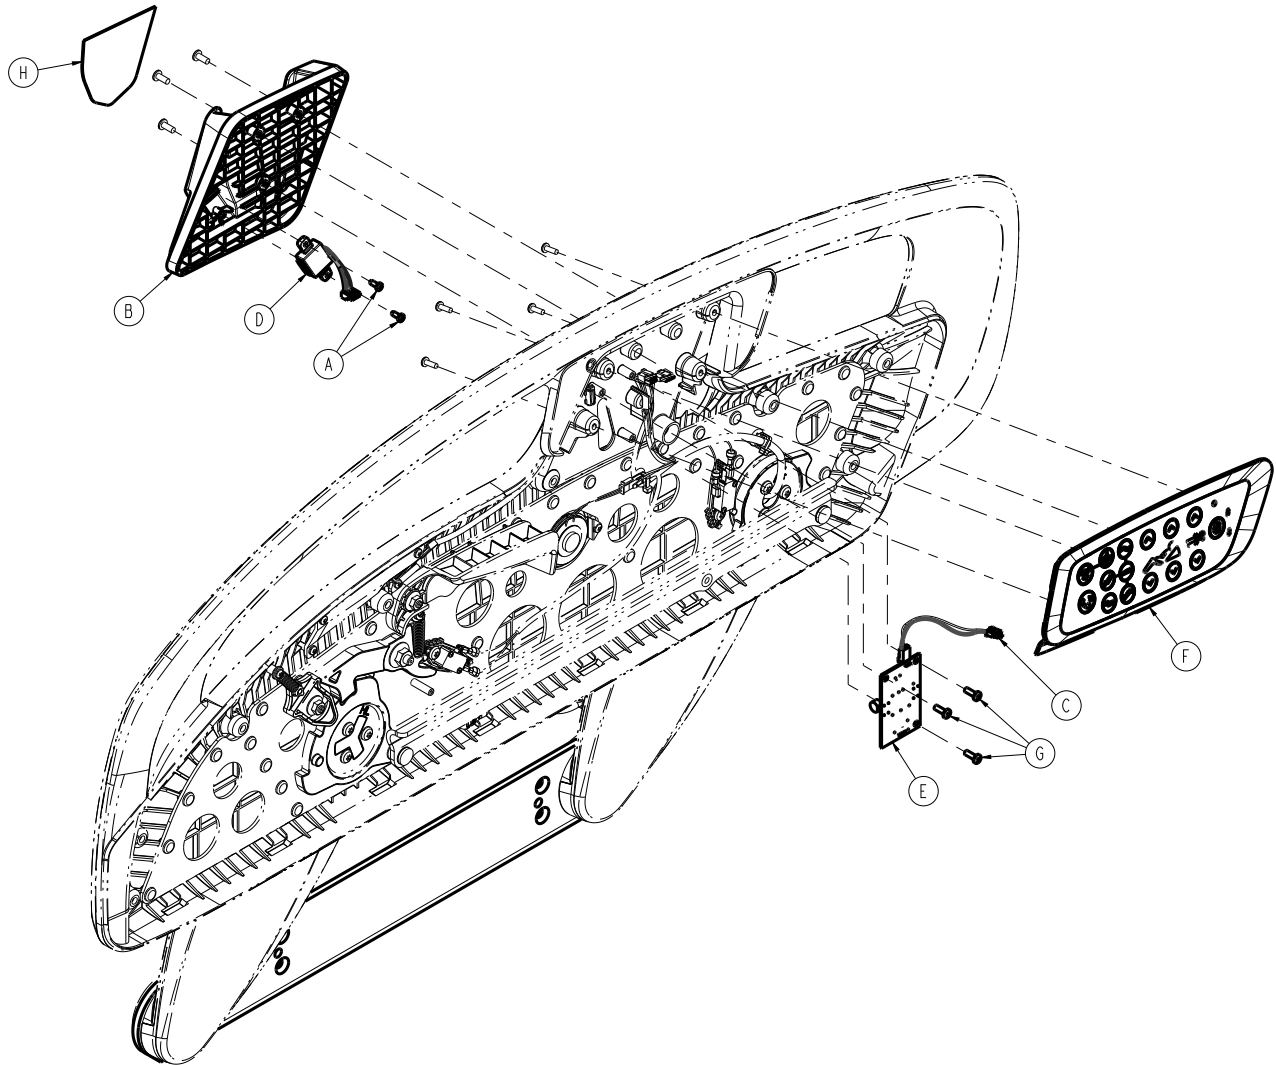

Figure 53 – Replacing the USB port option
9. Unplug the USB cable (D) from the USB charging board (E) to remove the patient belonging bracket with USB (B) (Figure 53).
11. If the product has the USB charger option, use a T20 Torx driver to remove the three screws (G) that secure the USB charger board (E) to the siderail hoop (Figure 53). Remove and save the board.